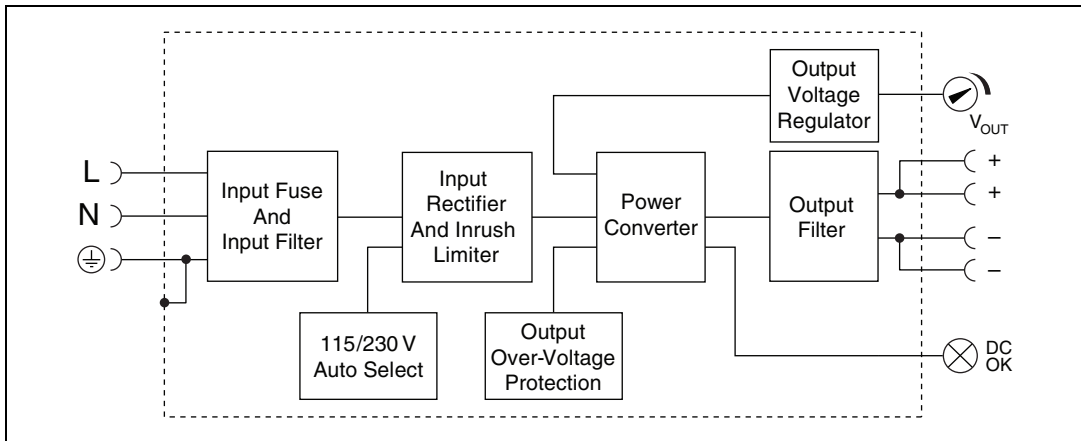
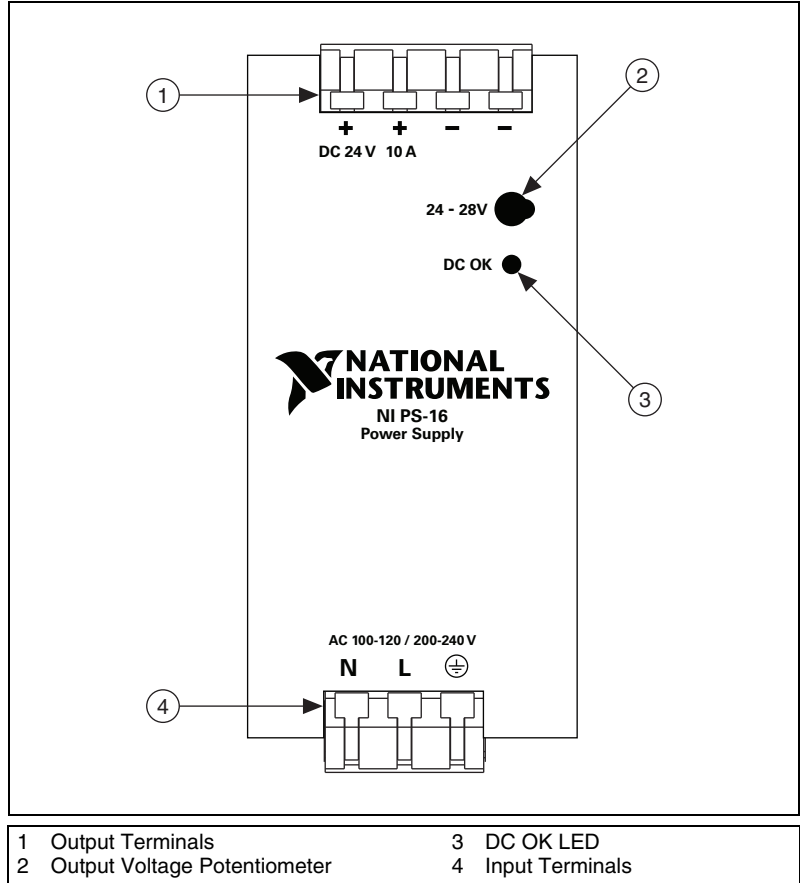

Figure 1-1. Functional Diagram for the NI PS-15 Power Supply
Figure 1-2. Front View of the NI PS-15 Power Supply
Figures 1-1 and 1-2 show the functional description and front panel features of the NI PS-15 power supply.
Figure 1-1 provides the functional diagram for the NI PS-15.
Figure 1-2 provides the front panel features of the NI PS-15.
The NI PS-15 has a total of four output terminals, providing two positive (+) output terminals and two negative (–) output terminals. Both positive terminals are wired together internally, and both negative terminals are wired together internally, as shown in Figure 1-1. The output terminals provide 24 V_{DC} with 5 A of current.
Output voltage from the NI PS-15 is set by the output voltage potentiometer, shown in Figure 1-2. The factory setting output voltage is 24.1 V \pm 0.2% (at full load when the power supply is cold), and the potentiometer allows the output voltage to be adjusted from 24–28 V on any unit. The output voltage may be adjusted above 28 V by the potentiometer, but voltages beyond 28 V are *not* guaranteed.
This green LED indicates the status of available DC power through the output terminals. If the LED is lit, DC output of greater than 21 V is available for use through the output terminals. If the LED is not lit, DC is not currently available. The DC OK LED is wired internally to the power conversion circuitry prior to the output filtering stage, as shown in Figure 1-1.
The NI PS-15 power supply derives power through the input terminals on the front panel, shown in Figure 1-2. There are three terminals corresponding to the Neutral input, the Line (or hot) input, and the Protective Earth (PE) input. The NI PS-15 rectifies both single-phase and two-phase AC input. The Neutral input terminal provides a MAINS return path for the input circuitry. The Line input is the primary power input for the supply. The PE input corresponds to an earth ground. As shown in Figure 1-1, the power supply case itself is grounded to the PE input.